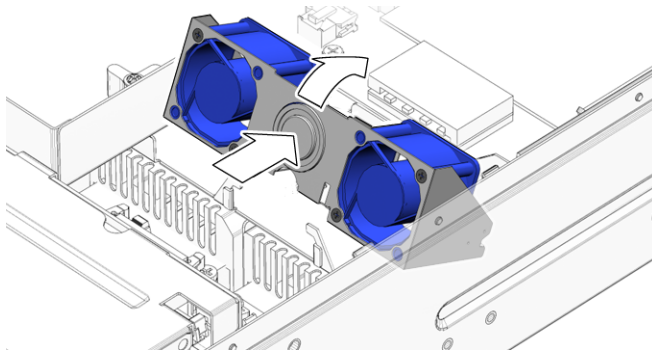

FIGURE 5-13 Releasing the Hard Drive Fan Bracket
4. Push the release button on the hard drive fan bracket, and pivot the bracket backwards (FIGURE 5-13).